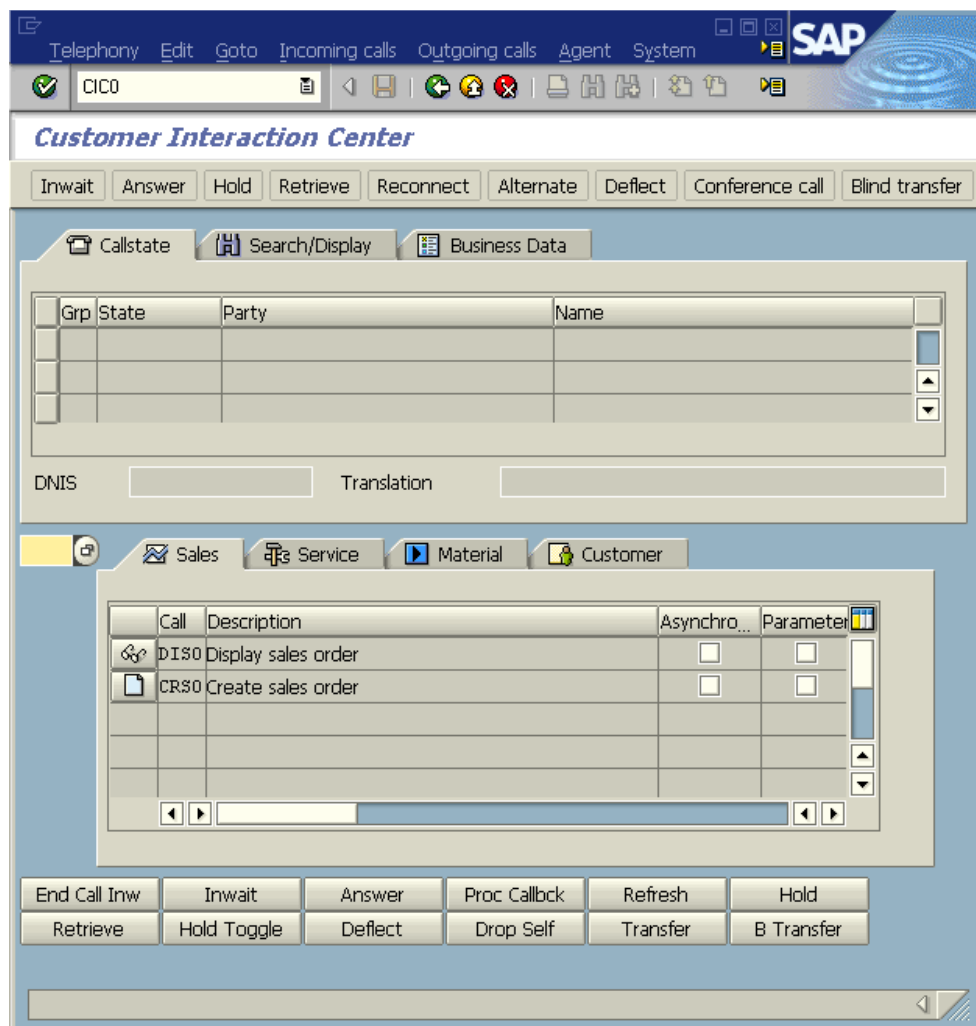

Figure 37: SAP: Customer Interaction Center
1. In SAP, go to the CIC0 (Customer Interaction Center #0) transaction, (see Figure 37).
2. Click **Inwait** to activate the Wait mode (see Figure 37).